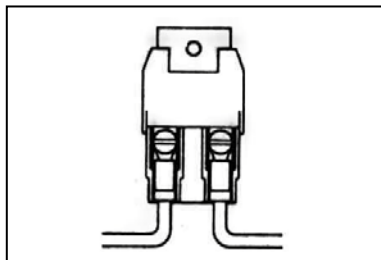

Figure 7-3 Maxi Fuse
- 7.4.1 With crimping tool, attach Maxi Fuse (**Figure 7-3**) onto end of ENGINE SECTION (single) 10 ga. wire #916 (red) AFTER having routed wire from the Fuse Panel to the Starter Solenoid. This serves as a fuse to protect the entire harness. DO NOT OMIT IT!
- 8.2.1** With crimping tool, attach the Maxi Fuse (**Figure 7-3**) onto end of ENGINE SECTION (single) 10 ga. wire #916 (red) AFTER having routed wire (with or without ammeter) from the Fuse Panel to the Starter Relay. This serves as a fuse to protect the entire harness. **DO NOT OMIT IT!**